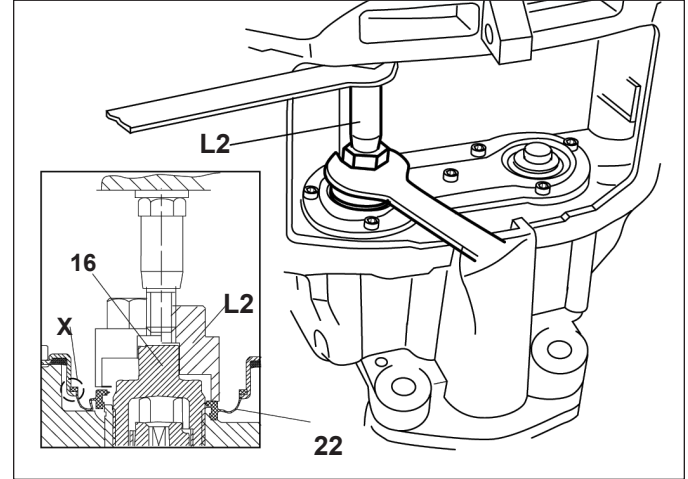

Figure 55 – Off-Vehicle Inner Seal Installation
- 4.5.13 Position the replacement inner seal (22) over the threaded tube (16). See Figures 54 and 55 for the tools and installation arrangement used. The threaded tubes need to be retracted to allow the tool to be inserted. Use the combination tool L2 (T04 + T03 + T09) with the long spacer (T04) as shown in Figure 55. Since the installation tool is guided by the center post of the threaded tube, advance the tube a small amount to align the tool and the center post. Install the new inner seal (22) into position by rotating the adjuster nut on the T04 portion of the tool using an open-ended wrench.